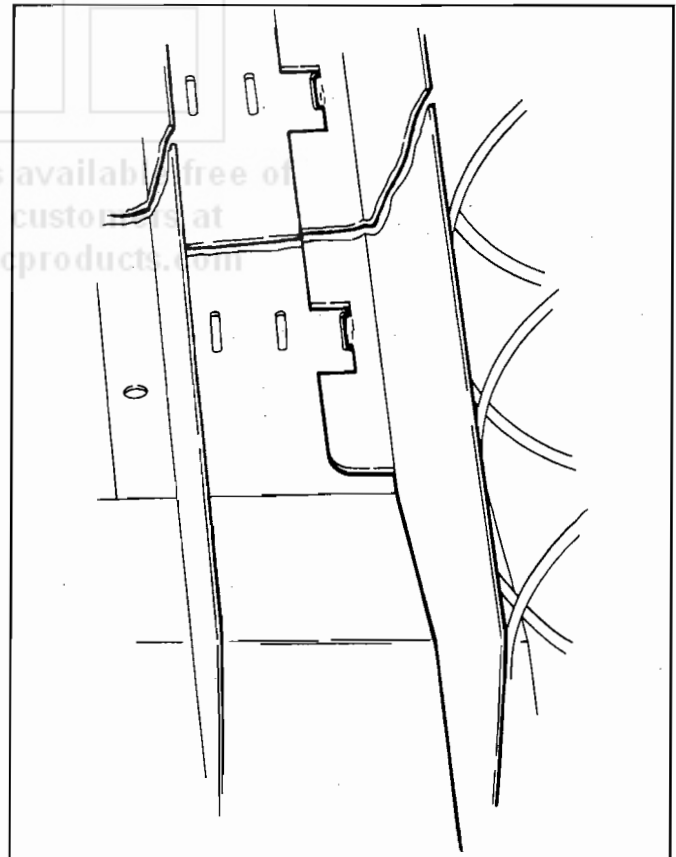

Figure 4. ALIGNMENT OF MOVEABLE PRODUCT SPACERS.
5. **PRODUCT SPACERS—4 SELECTION SHELF:** A product spacer is used to reduce the width of the product area and should be used on any 4-selection snack shelf where the product width is  $4\frac{1}{2}$ " or less. Spacers should fit within  $\frac{1}{8}$ " of the product but should not fit tight against the product. There are three positions in each snack space where these spacers can be placed. To install the spacer, align the lock ears (on the lower edge of the spacer) with one of the three sets of slots (one front and one rear). (See Figure 4). Push the spacer to the rear to allow the ears to enter the slots, then allow the spacer to move forward. Be sure the ears are in the same set of slots, front and rear. (See Figure 4). Continue loading all spirals adjust with spacers where needed in the top shelf. Return the top shelf to the vend position and following this procedure load the remainder of the large spiral shelves. The shelf divider separating the right (lock side) column from the next column is movable to allow vending of products wider than  $5\frac{1}{2}$ " in the second column. If this is used the right column must be used to vend a narrower product.